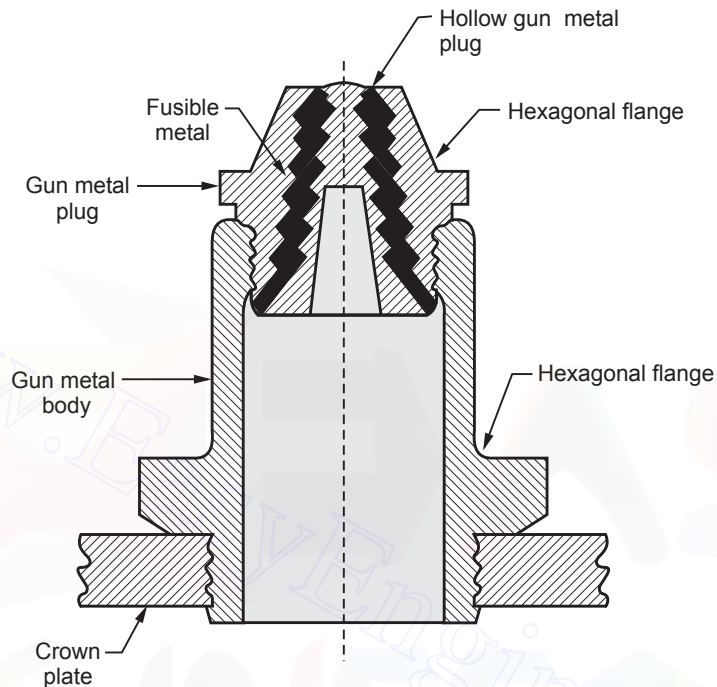

Fig. 2.11 : Fusible plug
- The Fig. 2.11 diagram shows fusible plug.